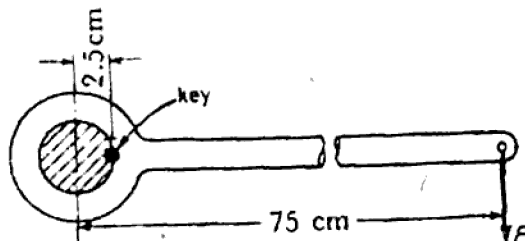

Fig. 9
- b) In Fig. 9 a lever is attached to a spindle by means of a square key 6 mm \times 6 mm by 2.5 cm long. If the average shear stress in the key not to exceed 700 kg/cm², what is the safe value of the load P applied to the end of the lever?